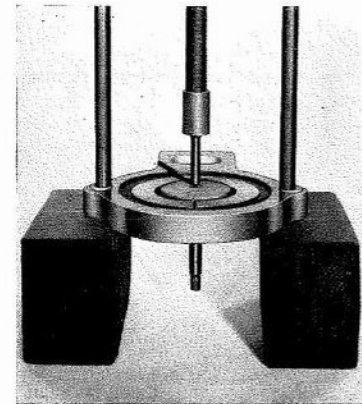

Fig. Q.5.
7. If the impeller is to be removed from the shaft it should be set up as shown in Fig. Q.5.